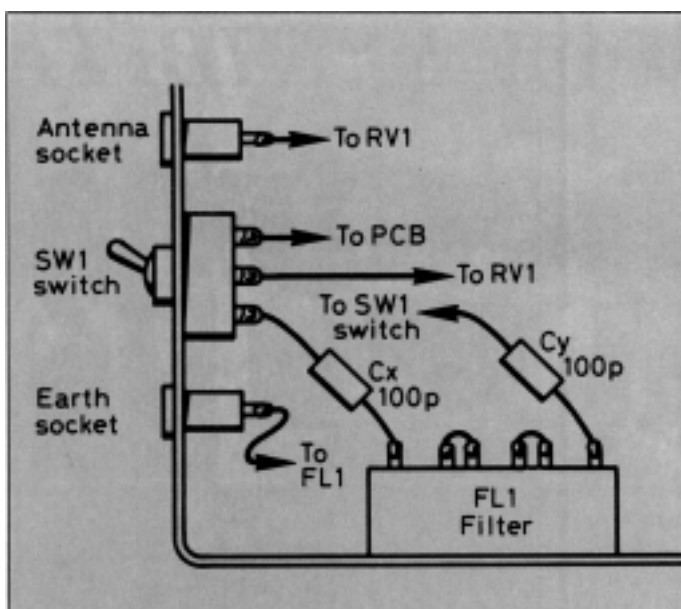

Figure 3 Internal view of the Yearling case. The filter FL1 is attached to the base with glue
5. Lastly, check your new connections carefully, then mount the switch in the new hole and fix the filter to the bottom of the case with a little glue, as shown in **Figure 3**. Reassemble the circuit, and replace the back of the case.